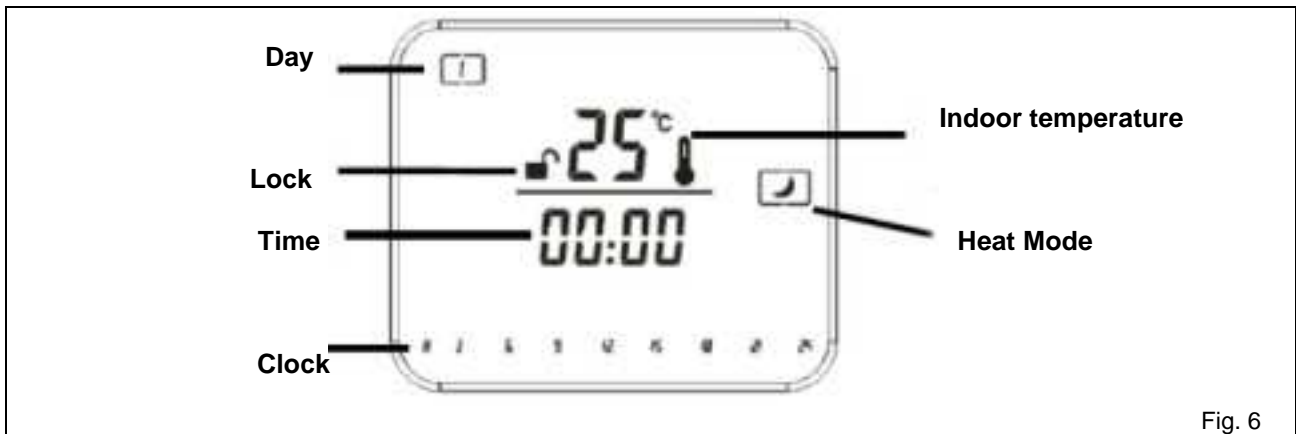

Fig. 6
3. When the heater is first operated, the screen shows the day, the lock status, indoor temperature, heating mode and time (see Fig. 6).